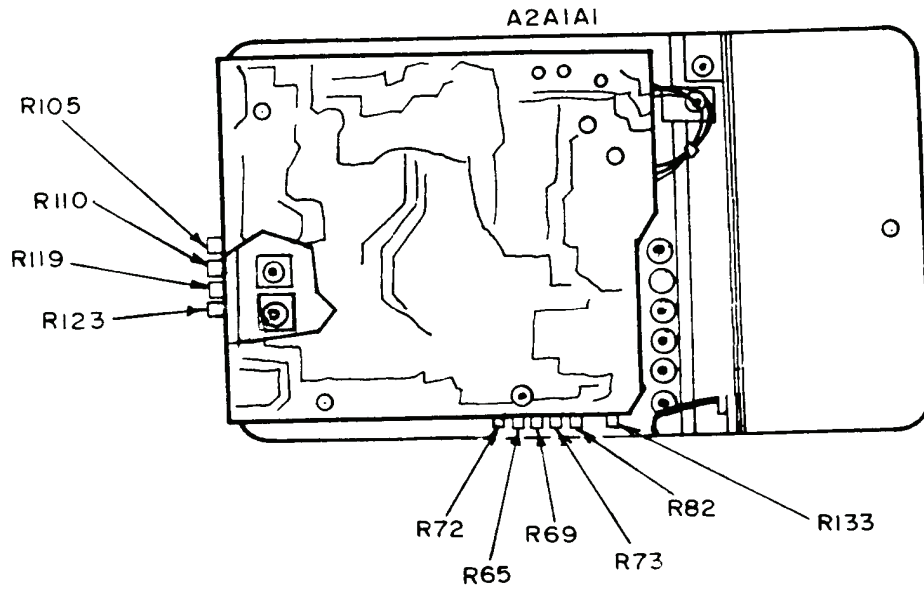

Figure 8. MM-100E multimeter - rear view.
³If out-of-tolerance, adjust calibrator for 10.0000 and adjust A2A1A1R82 (fig. 8) for 10 V indication on multimeter. (R)
(9) Set TI multimeter **FUNCTION** switch to **OHMS** and **RANGE** switch to **X1 Ω**. If meter does not indicate (infinity), perform **b (4)** below.
(10) Connect resistance standard to TI multimeter **INPUT**, using probe in table 3 (set to X1).
(11) Adjust resistance standard until TI multimeter indicates **30** on **OHMS** scale. If resistance standard does not within limits specified in first row of table 16, perform **b (5)** below.
(12) Repeat technique of (11) above for settings and indications listed in table 16. Resistance standard will indicate within limits specified in table 16.
(13) Set TI multimeter **FUNCTION** switch to **HI-Z** and **RANGE** switch to **1V**.
(14) Connect calibrator to TI multimeter **INPUT**.
¹If required, readjust A2A1A1R123 (fig. 8) for best in-tolerance indication (R).
(1) Adjust A2A1A1R65 (fig. 8) for 0 indication on multimeter.
(2) Adjust A2A1A1R73 (fig. 8) for 0 indication on multimeter.
(3) Adjust calibrator output for a 1.00000 indication. Adjust A2A1A1R69 (fig. 8) for a 1V indication on TI multimeter (R).
(4) Adjust A2A1A1R119 (fig. 8) for ∞ (infinity) on TI multimeter (R).
(5) Set resistance standard to 30 Ω . Adjust A2A1A1R123 (fig. 8) for 30 Ω indication on TI multimeter (R).
(6) Adjust calibrator output for a 1 V indication. Adjust A2A1A1R72 (fig. 8) for a 1 V indication on TI multimeter (R).
(7) Adjust A2A1A1R110 (fig. 8) for 6 dB indication on **SINAD** scale (R).
(8) Adjust **1 kHz** control until audio analyzer indicates 10 percent distortion.
(9) Adjust A2A1A1R105 (fig. 8) for 10 percent indication on TI multimeter (R).
(10) Adjust A2A1A1R133 (fig. 8) for 60 percent indication on TI multimeter (R).